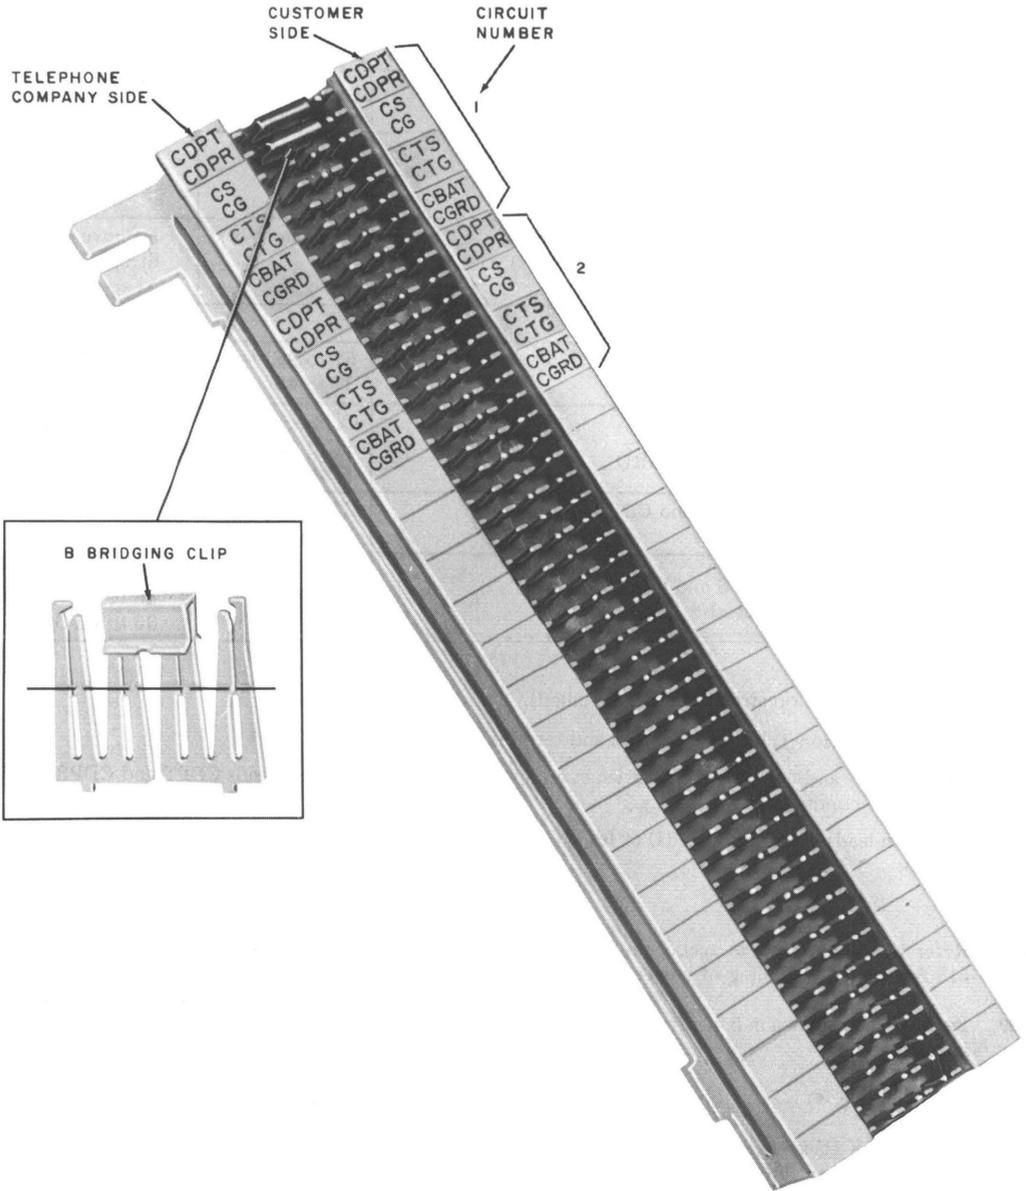

Fig. 2—66M1-50 Interface Connecting Block
- Block, Connecting, 66M1-50 (Fig. 2)
3.05 Use "D" inside wiring cable, or equivalent, to terminate the leads associated with the CPE on the interface connecting block. The CDPT, CDPR, CS and CG leads are always used. If the CGRD and CBAT leads or CTS and CTG leads (options Q and T) are not used, do not run them to the interface block. Stencil lead designations on interface connecting block designation strip (see Fig. 2).